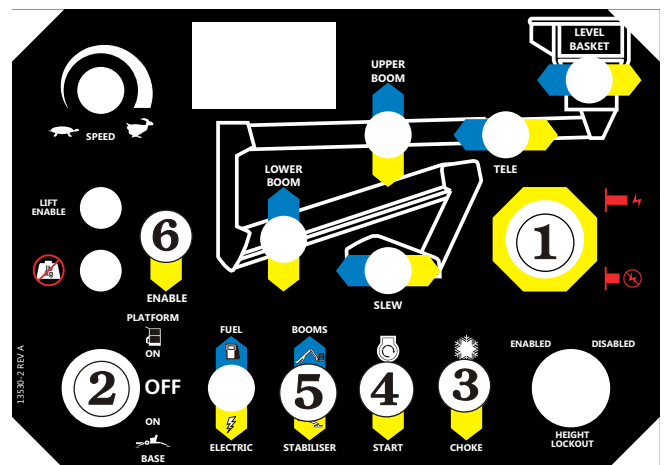

Figure 8.7 - Ground Control Box Starting
Ensure the Boom/Stabiliser Switch (item ⑤ on the ground control box) (see Figure 8.7) is set to stabiliser.
1. Set the **Emergency Stop** switch **1** to ON (see Figure 8.7).
2. Insert the key and set the **Platform/Ground Selector** switch **2** to GROUND (see Figure 8.7).
3. If the engine is at ambient temperature (cold), hold the **Choke / Cold Start Switch** ③ (see Figure 8.7) down throughout the next step.
4. Press down on the **Start Switch** and hold it there until the engine starts or for a maximum time of 6 seconds. When the engine starts release the start switch ④ and the choke switch ③, if you used it (see Figure 8.7).
6. Press down on the **Start Switch** and hold it there until the engine starts or for a maximum time of 6 seconds. When the engine starts release the start switch ⑦ and the choke switch ⑥, if you used it (see Figure 8.7).